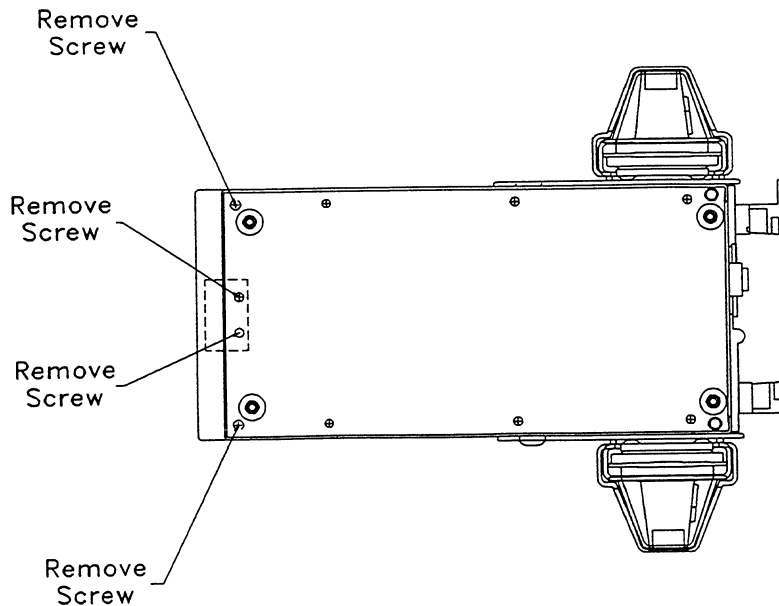

FIGURE 10.2
10.3.0 Bezel Assembly Removal: Remove four bottom screws and two top screws, as shown below in Figure 10.2.